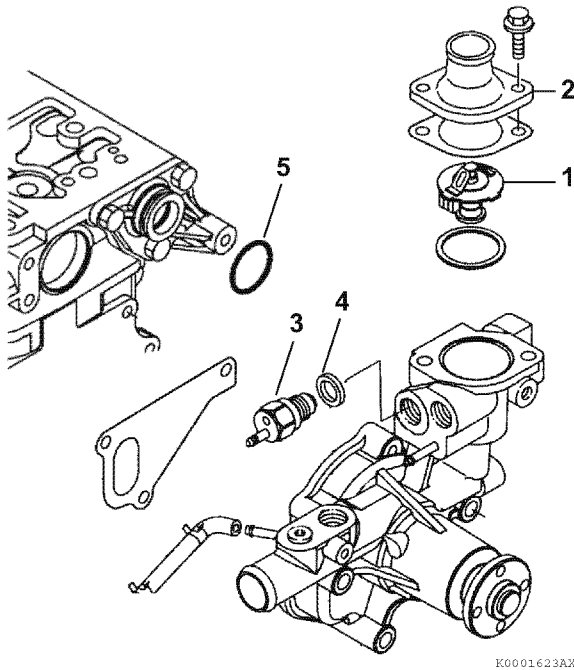

Figure 8-13
1. Reinstall the thermostat (Figure 8-13, (1)) and a new O-ring.
2. Reinstall the thermostat cover (Figure 8-13, (2)) and a new gasket. Tighten the thermostat cover bolts.
3. Reinstall the temperature switch (Figure 8-13, (3)) and a new gasket (Figure 8-13, (4)).
1. Position the engine coolant pump on the engine and install a new gasket. Install a new special O-ring (Figure 8-13, (5)) on assembly between the engine coolant pump and the joint.